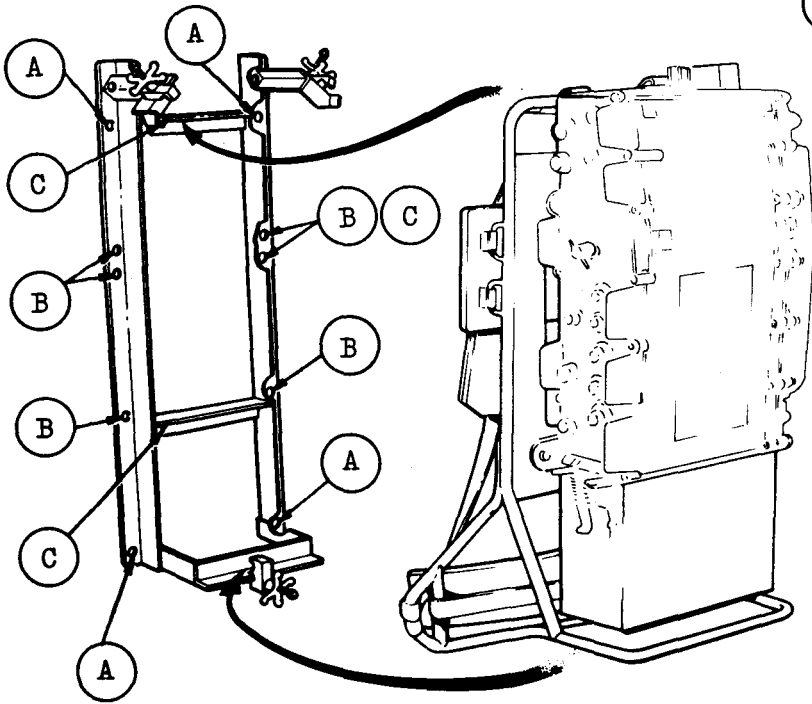

Fig.22 Installation in a Vehicle
3.3 Fitting RT320/1 (Fig.22). Proceed as follows:-